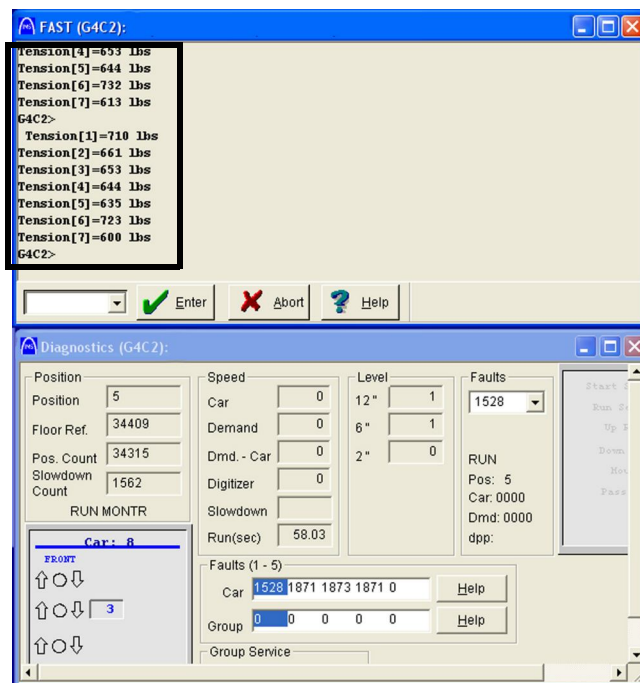

Figure 7 - Verify Rope Tension
12. Enter EMCT command in the Remote Fast of IMS to verify all hoist ropes have tension. See Figure 7.